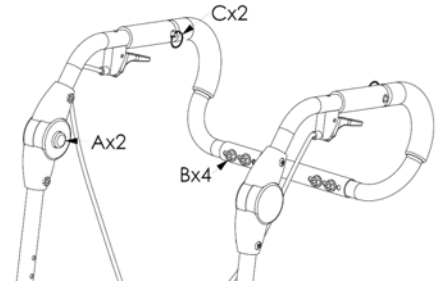

Fig. 5
- c. Secure adjustable angle stroller handle to the back canes with the two quick release pins (C in Figure 5).
- a. Remove the two quick release pins (item C in Figure 5) by pulling on the rings.
- i. Depress the 2 buttons labeled A in figure 5.
- i. Undo the 4 fasteners (B in Figure 5)
- ii. Insert one half of the stroller handle into a back cane, secure it with a quick release pin (C in figure 5)